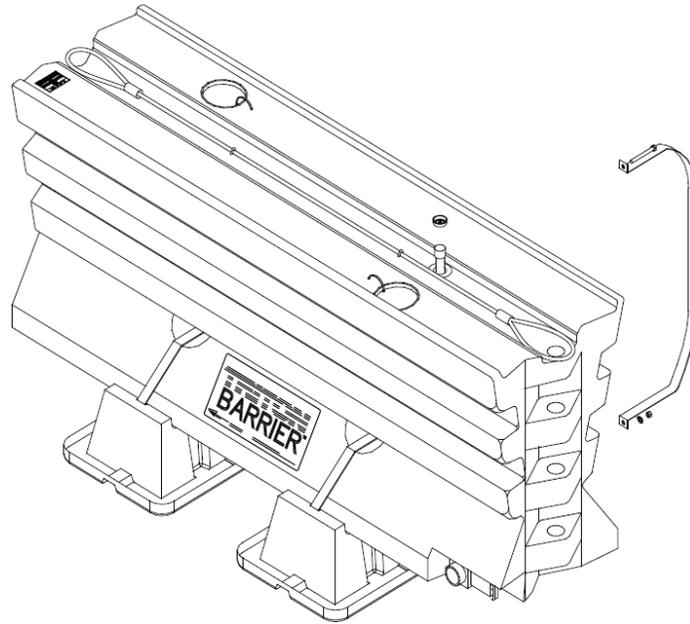

Figure 5
3. If TL-3 kits (Pedestals) are used, attach Pedestals to the barrier using a strap as shown in Figure 5 and Assembly drawing.